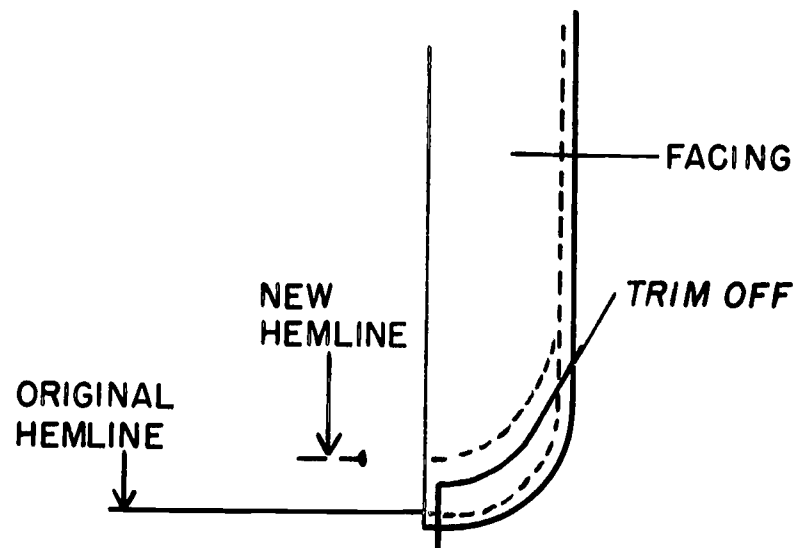

Figure 49.
9. Grade or trim seam to 1/8-1/4 inch and then remove any of the original line of stitching which remains (see Figure 49).